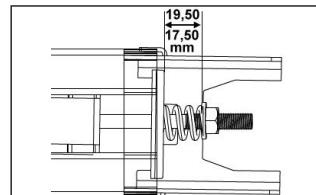

Fig 10
- Tight the nut to the right position as shown in Fig.10, cut the plastic tape, cut the plastic thread on sprocket, then whole rail assembled finished.